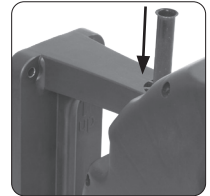

Fig. 2 Pivot Pin
6. Connect the hose reel to the Mounting Bracket with the Pivot Pin.(Fig. 2)